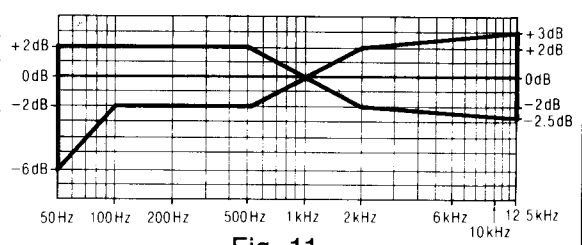
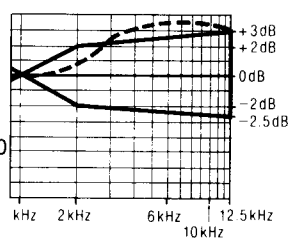
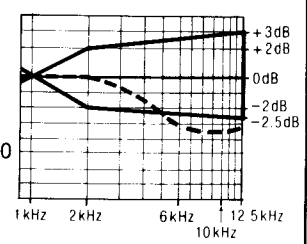

Fig. 11
Fig. 12
Fig. 13
6. Playback the signals recorded in step 5, and check if the frequency response curve is within the limits shown in the overall frequency response chart for normal tapes (fig. 11).
When the curve exceeds the overall specified frequency response chart (fig. 11) as shown in fig. 12.
- 2) Repeat steps 5 and 6 for confirmation (Proceed to steps 7, 8 and 9 if the curve is now within the charted specifications as shown fig. 11.)
- 3) If the curve still exceeds the specifications (fig. 11), increase bias current further and repeat steps 5 and 6.
When the curve falls below the overall specified frequency response chart (fig. 11) as shown in fig. 13.
- 3) If the curve still falls below the charted specifications (fig. 11), reduce bias current further and repeat steps 5 and 6.